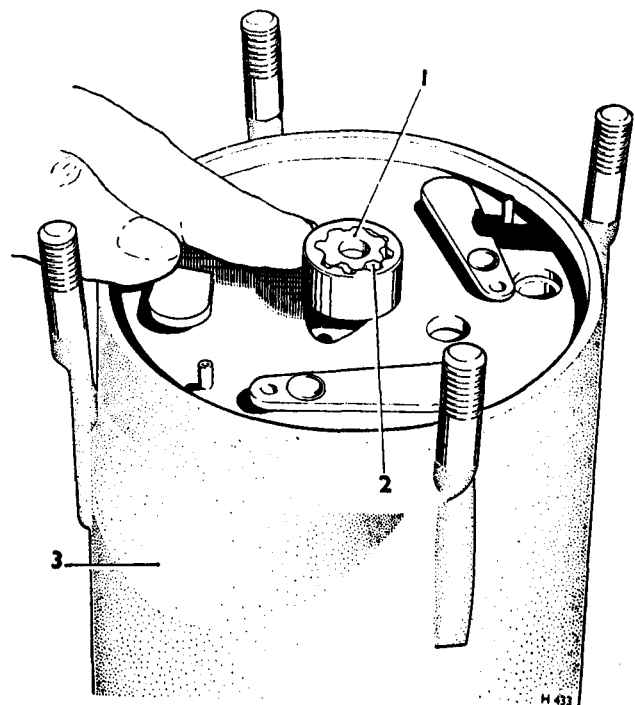

FIG. C25 POSITIONING THE OIL PUMP GEARS
17. Position the gears as shown in Figure C25.